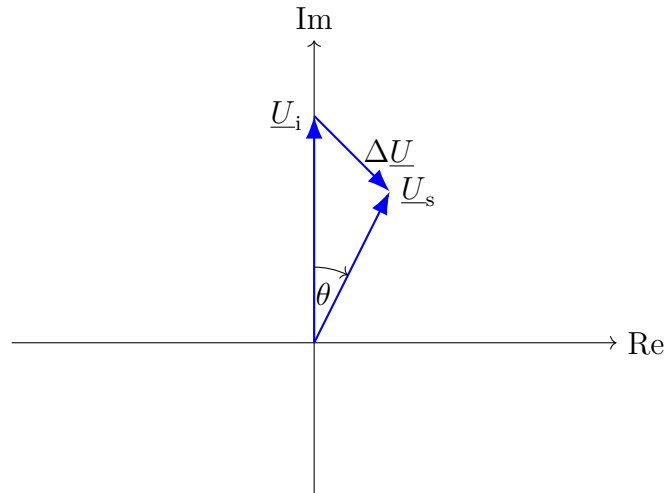

Figure 2: Phasor diagram of a synchronous machine with scaling $1 \text{ kV} = 1 \text{ cm}$ and $1 \text{ kA} = 1 \text{ cm}$.
4.1 Determine the operating mode of the machine characterized by Fig. 2.